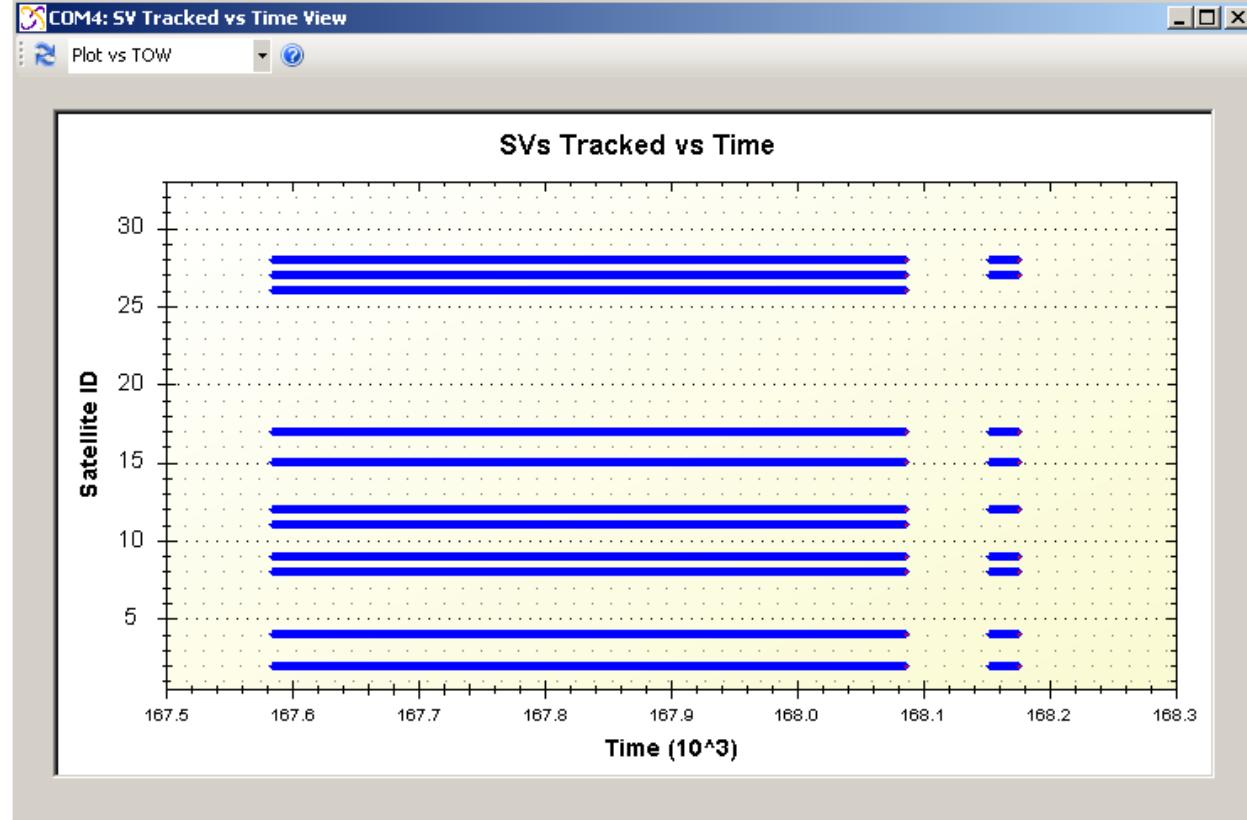

Figure 7.35: Satellite ID Tracked Over Time
- Select Receiver / Plot Data / SV Tracked vs Time to display the satellite ID tracked over time, see Figure 7.35.